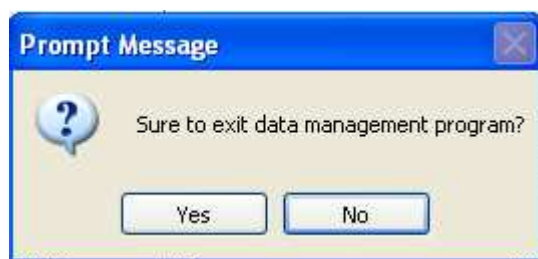

Fig. 5-8-1
As Fig. 5-8-1, click “×” on the top right corner of the Data Management window, popup the prompt window as the following Figure, and then click (Y) and exit the Data Management window; return to the main program interface of ELan-12 infrared sulfur analyzer; click (N), it is to waive the exit.